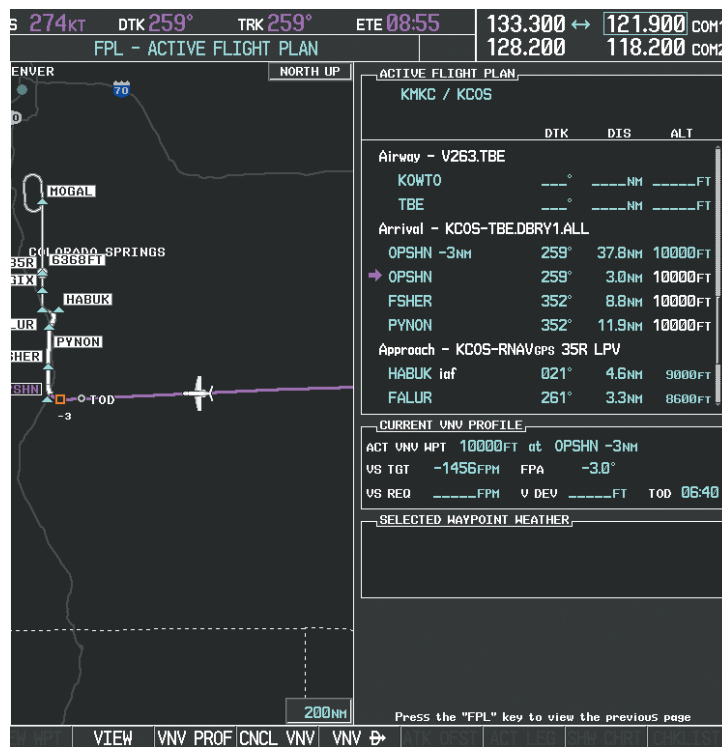

Figure 5-138 Adjusting the Descent
- a) Select the **VNV PROF** Softkey to place the cursor in the target vertical speed field (VS TGT) as shown in Figure 5-138.